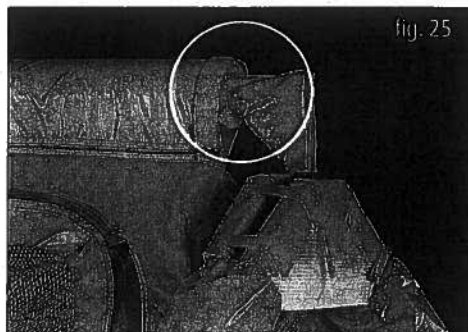

fig. 25
STEP 6: Fasten the Support Straps on each side of the Top Piece of the Canopy before zipping (fig. 25). This will help hold the zipper in place while zipping.